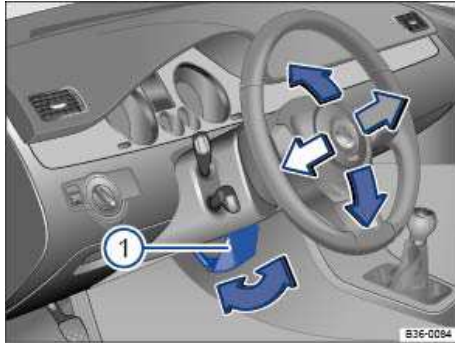

Fig. 52 Manual adjustment for the steering wheel position.
- ☐ Pull the lever down ⇒ fig. 52 \(1\).